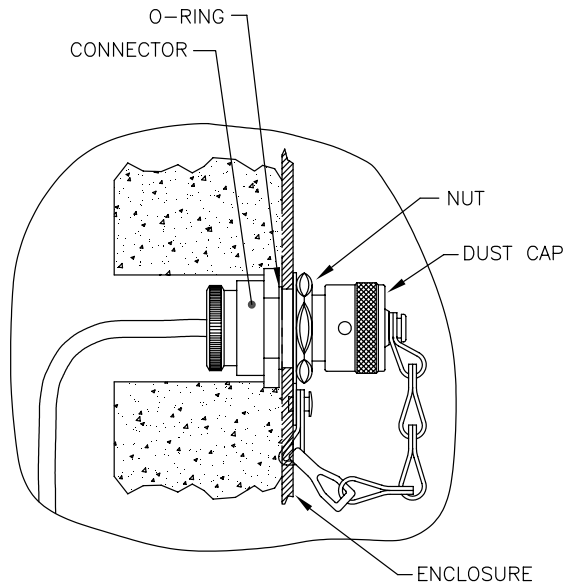

Figure 50 External PCCU Cable Option Installation
- 2) Remove Nut from connector (see Figure 50).